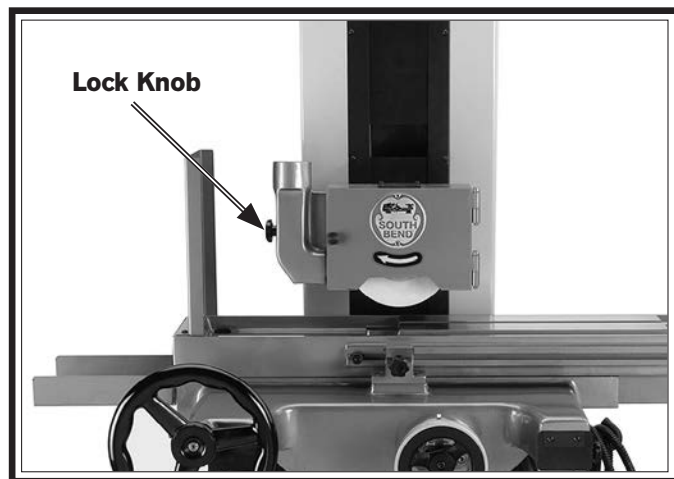

Figure 42. Dust port lock knob.
1. Hold the dust port with one hand to prevent it from moving, then loosen the lock knob shown in **Figure 42**.